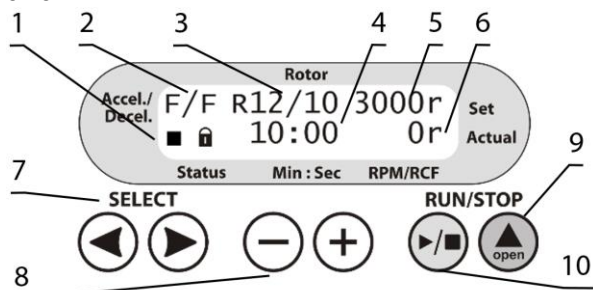

Figure 2. LMC-56 control panel
- Check the power cable for any signs of damage. Connect the power cable to a properly grounded mains socket. Set the power switch on the unit to position **I** (on). Press the **▲ Open** key (fig. 2/9) and lift the lid by hand.
- Acceleration and deceleration modes (fig. 2/2);
- Set rotor speed in RPM or RCF¹ (fig. 2/6);
- Status icons of rotor, ■ stopped or ► running (fig. 2/1, first symbol);
- Status icons of lid, ■ closed or ► open (fig. 2/1, second symbol);
- Set time of centrifugation, in minutes and seconds (fig. 2/4);
- Actual rotor speed, in RPM or RCF (fig. 2/6);
- 5.4 Press the **▲ Open** key (fig. 2/9) and lift the lid by hand. Check the rotor, buckets for any signs of wear or corrosion, and replace if necessary. Insert **EVEN** number of tubes/microtest plates in rotor one opposite another. The loading in the opposite tubes must be equal.
5.5 **Setting parameters.** Use the **SELECT** ◀ and ▶ keys (fig. 2/7) to choose a parameter and the – and + keys (fig. 2/8) to modify it. Selected parameter will be blinking. Program automatically saves any changes made after no keys are pressed for 2 seconds.
5.5.1 Acceleration modes (fig. 2/2, first letter). Three modes of acceleration are available, slow (shortened to **S**), normal (**N**) and fast (**F**).
5.5.2 Deceleration modes (fig. 2/2, second letter). Four modes of deceleration are available, free brake (**0**), slow (**S**), normal (**N**) and fast (**F**).
5.5.3 Installed rotor (fig. 2/3). Combinations of rotors, adapters and their maximum allowed speed is listed below in the **Table 1**.
5.5.4 Rotation parameters (fig. 2/5). Rotor speed can be set in RPM and in RCF, denoted after numeric value by **r** and **g**, accordingly. Values convert after changing units. RCF depends on selected rotor or adapters, as shown in Table 1.
5.5.5 Time setting (fig. 2/4). Select duration of centrifugation in minutes, step 1 minute.
- 5.6 Close the lid carefully and smoothly until a clicking sound is heard. Icon  appears on the display (fig. 2/1).
- 5.7 Press the **RUN/STOP** / key (fig. 2/10) to start centrifugation. Icon  (fig. 2/1) and actual speed (fig. 2/6) are shown in the lower line of the display. The timer (fig. 2/4) starts the countdown after set speed is achieved.